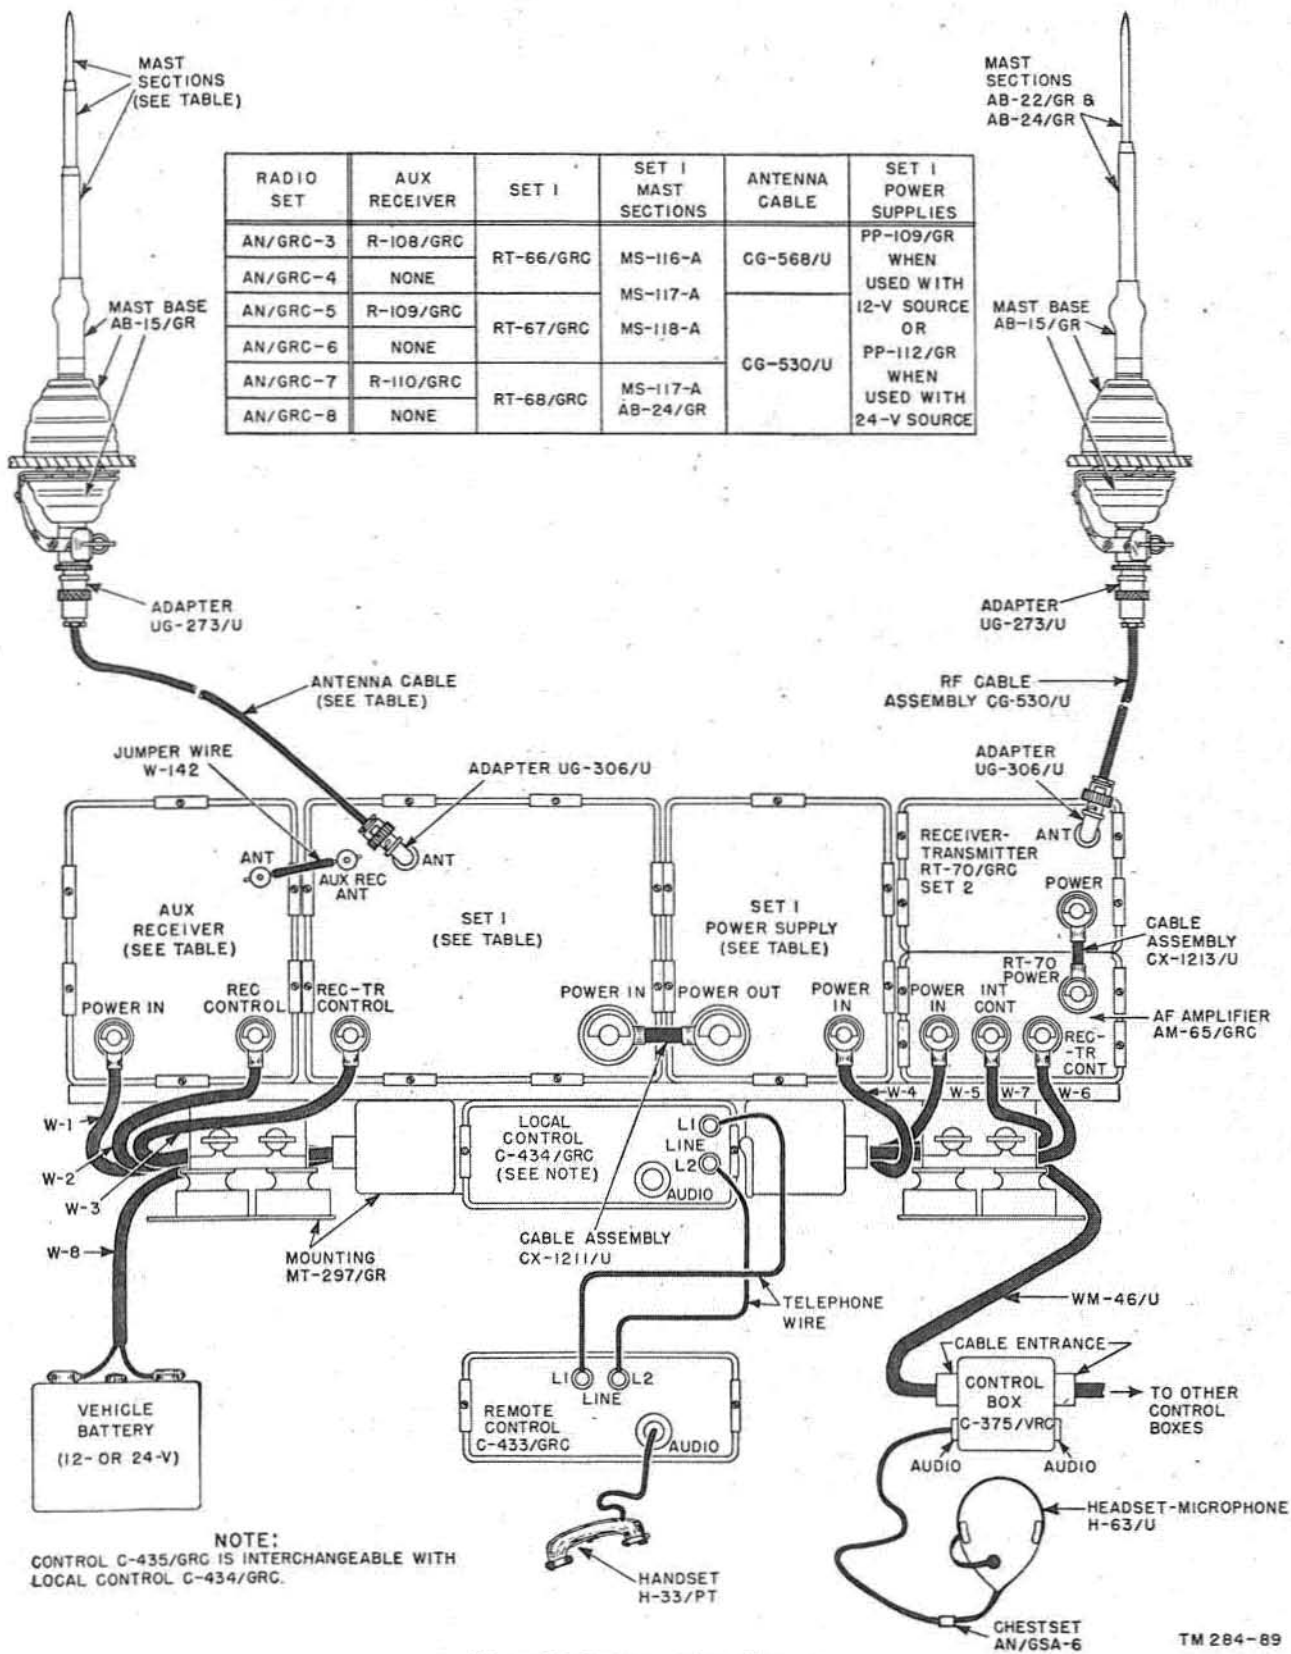

Figure 29. System cordage diagram.
(fig. 29)
(1) If more than one Control Box C-375/VRC is used in the system, set the switch at TANK.
(2) If one Control Box C-375/VRC is used in the system, set the switch at VEH.
a. Place the OPERATE switch of the Set 1 Power Supply PP-109/GR or PP-112/GR in the OFF position, and secure the unit on the mounting beside AF Amplifier AM-65/GRC (fig. 29). Use Power Supply PP-109/GR in 12-volt systems and Power Supply PP-112/GR in 24-volt systems.
b. Place and lock the Set 1 receiver-transmitter on the mounting next to the power supply. Refer to figure 29 for the particular receiver-transmitter used in each system.
Instructions for the auxiliary receivers apply only to Radio Sets AN/GRC-3, -5, and -7. Figure 29 indicates which receiver is applicable to each set.
Make the system interconnections outlined below and illustrated on figure 29.
b. Connect Adapter UG-306/U to the ANT connector on Set 1. Connect one end of the antenna cable (RF Cable Assembly CG-568/U or CG-530/U as indicated in figure 29) to the adapter; connect the other end of the cable to the Set 1 mast base (par. 33).